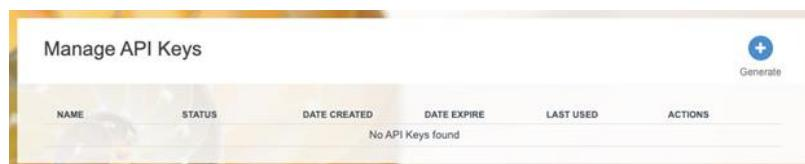

Figure 75: API Key List dialog
- In a third browser tab, navigate to <https://accounts.login.illumina.com/platform-home/#/apiKey/list> (**see Figure 75**). (If your BaseSpace account is part of an Enterprise subscription, navigate to [https://\[YourEnterpriseDomain\].login.illumina.com/platform-home/#/apiKey/list](https://[YourEnterpriseDomain].login.illumina.com/platform-home/#/apiKey/list) ).